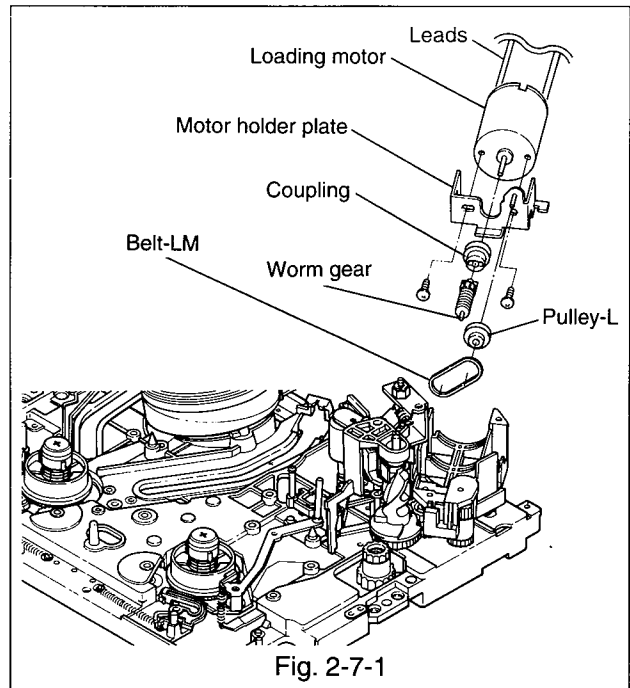

Fig. 2-7-1
2-7-1 Removal(Refer to Fig. 2-7-1, 2-7-2.)
- Remove the belt-LM from the loading motor and the pulley-L.(TYPE-B only)(Refer to Fig. 2-7-1.)
2-7-2 Installation(Refer to Fig. 2-7-1~2-7-3.)
- Fasten the motor holder plate to the motor with two screws.(Refer to Fig. 2-7-1.)